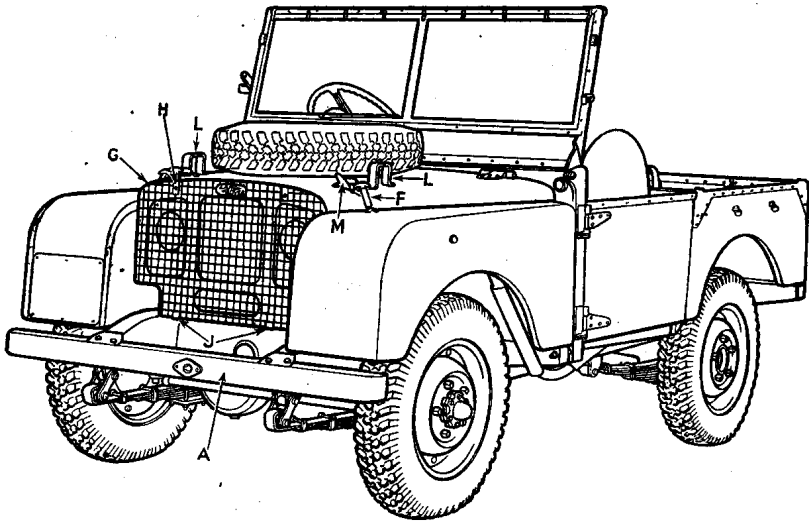
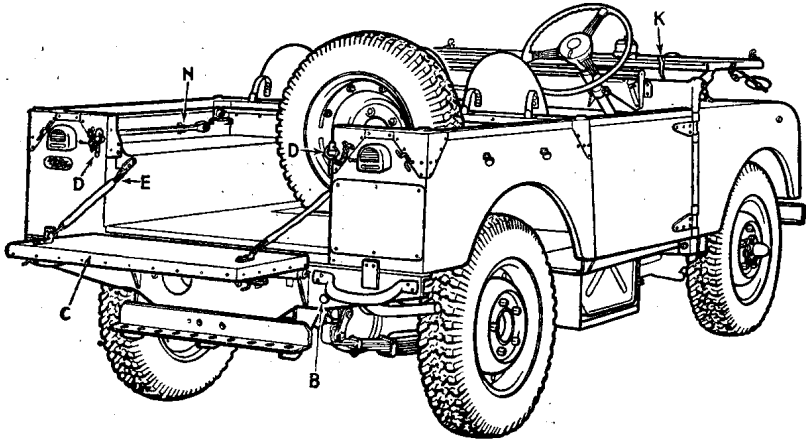

Fig. 1. (Three-quarter front view).
Fig. 2. (Three-quarter rear view).
The main characteristics of the Land-Rover are brought out in Figs. 1 and 2; there are, however, a few small points which may not be too clear from the illustrations and which require explanation to ensure your obtaining the maximum utility from the vehicle.
Provision is made for folding the windscreen down on to the bonnet (Fig. 2). To do this, release the two clamps (K) from the dash panel and lower the windscreen on to the supports (L); secure in this position by means of the spring fasteners (M). To prevent rattles when not in use, these fasteners are normally clipped to the bonnet panel (Fig. 1).
The spare wheel is stowed in the depression in the body floor (Fig. 2) and retained by means of a clamp and wing-nut. When it is desired to utilise the entire body space for load-carrying the spare wheel can be carried in the alternative position on the bonnet top (Fig. 1). The mounting plate for this purpose is supplied as an extra component. With the spare wheel carried in this way, it is not possible to fold the windscreen into the horizontal position.
TOOLS. The small tools are carried in the locker under the seat-box on the left-hand side. Clips for the starting handle are fitted on the rear of the seat back-rest panel and those (N) for the jack handle on the inside of the left-hand side panel (Fig. 2). When certain items of special equipment are installed, the jack handle is stowed in clips along the dash above the instrument panel.